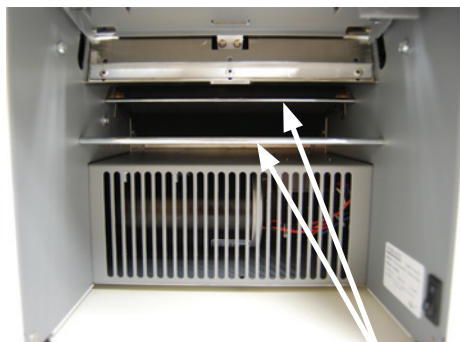

Figure 5a
5. To reinstall the lower fold plate, slide the plate (with the thumbscrews facing up and throat toward inside of machine, figure 5b) until it rests on the two silver bars (figure 5a) and locks into place (figure 5c).